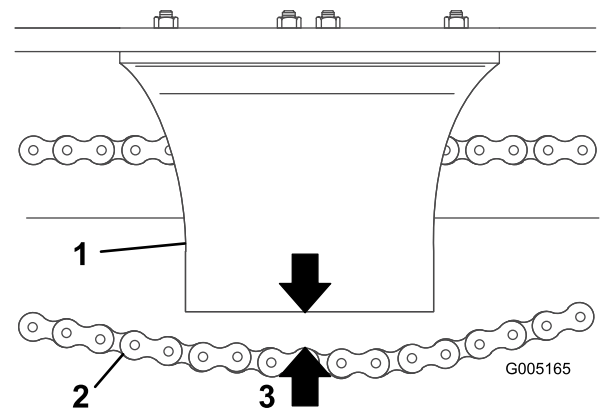

Figure 31
4. Measure the distance between the bottom of the chain guard and the lower chain span (Figure 31). If the slack in the chain is not within 1-1/2 to 2-1/2 inches (3.8 to 6.35 cm), adjust the tension (refer to Adjusting the Tension).
6. Adjust the chain tensioning bolt until the distance between the bottom of the chain guard and the lower chain span is within 1-1/2 to 2-1/2 inches (3.8 to 6.35 cm) (Figure 31).